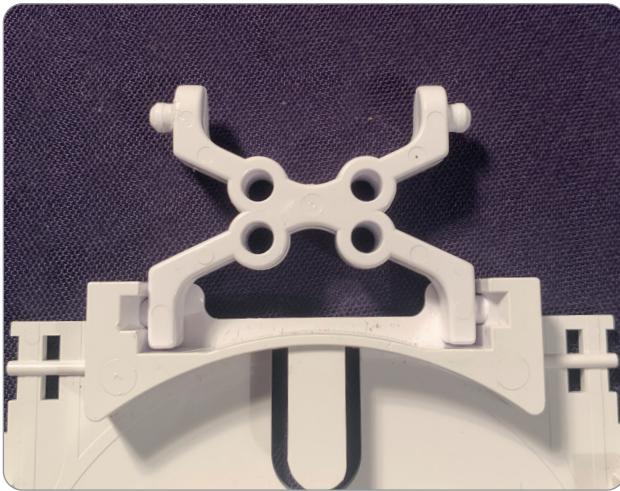

Figure 1
1. Remove current A-B splice tray X Member clip installed on splice tray by squeezing the legs on the X member until it releases. (Figure 1 and 2)